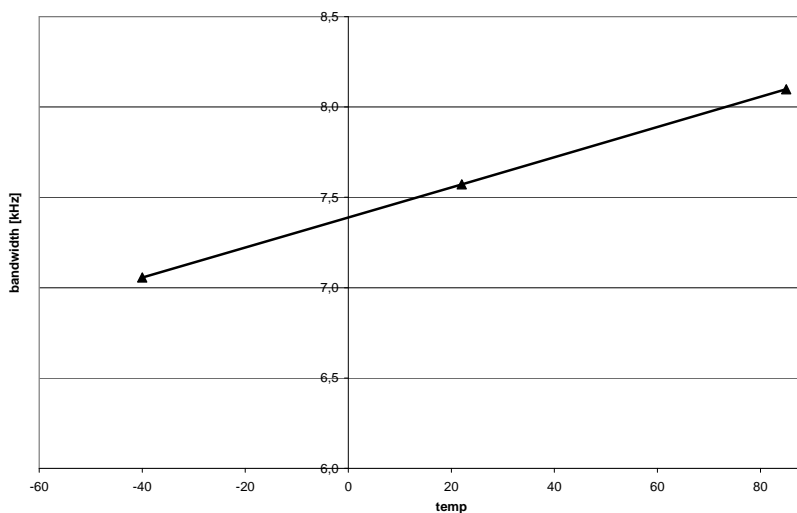

Figure 8 Typical temperature dependency of bandwidth BW
3. Typical temperature dependency of bandwidth BW shown in Figure 8.